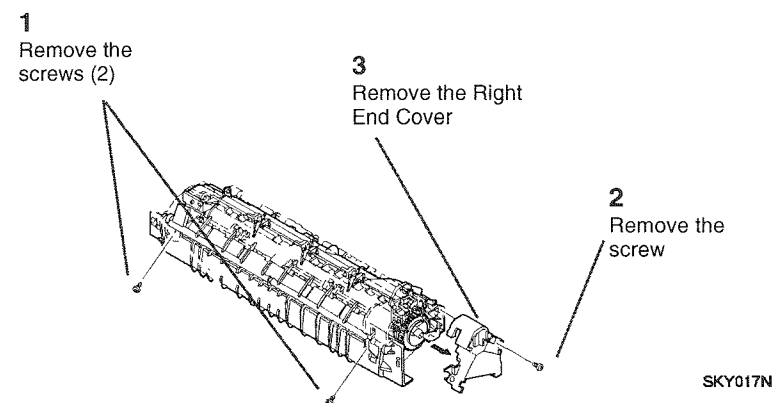

Figure 1 Removing the Right End Cover
5. ( Figure 1): Remove the Right End Cover and open the assembly.